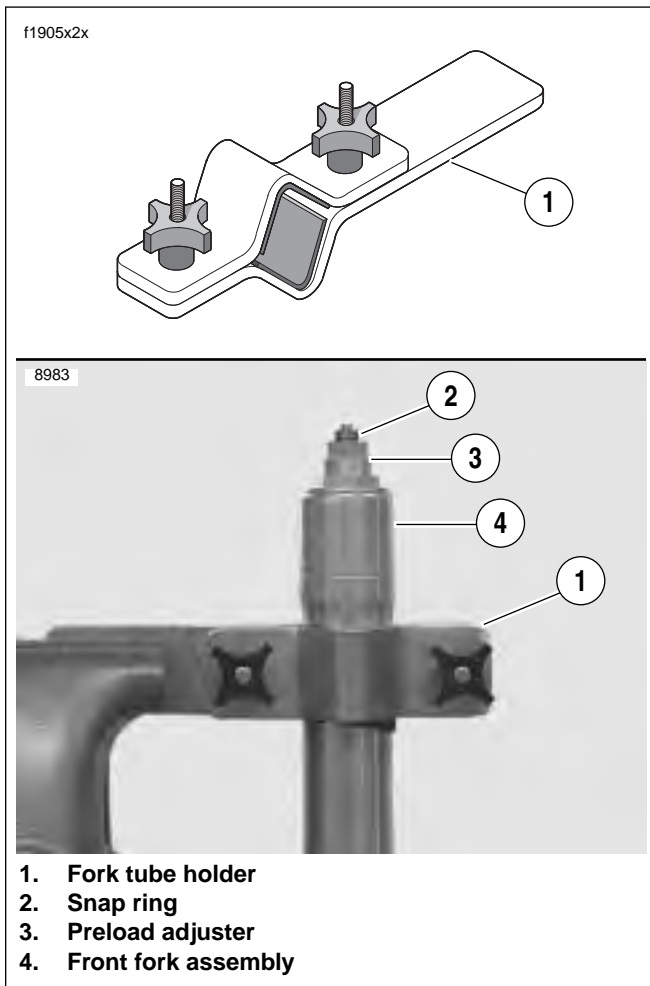

Figure 2-67. Fork Tube Holder (HD-41177)
2. See Figure 2-67. Clamp the FORK TUBE HOLDER TOOL (1) (Part No. HD-41177) in a vise and install the upper part of the front fork in the holding tool.
3. Remove snap ring (2).